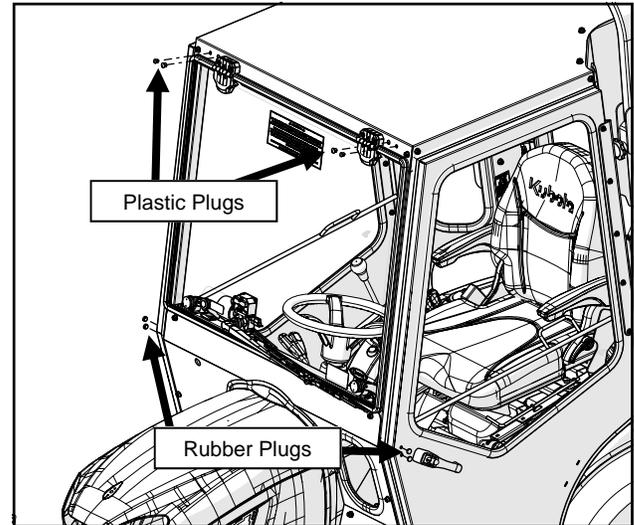

Fig. 23.1 (Install Plugs)
23.1 If installing accessories, please do so now. If not, use the supplied plugs to fill any exposed holes. See Figure 23.1.